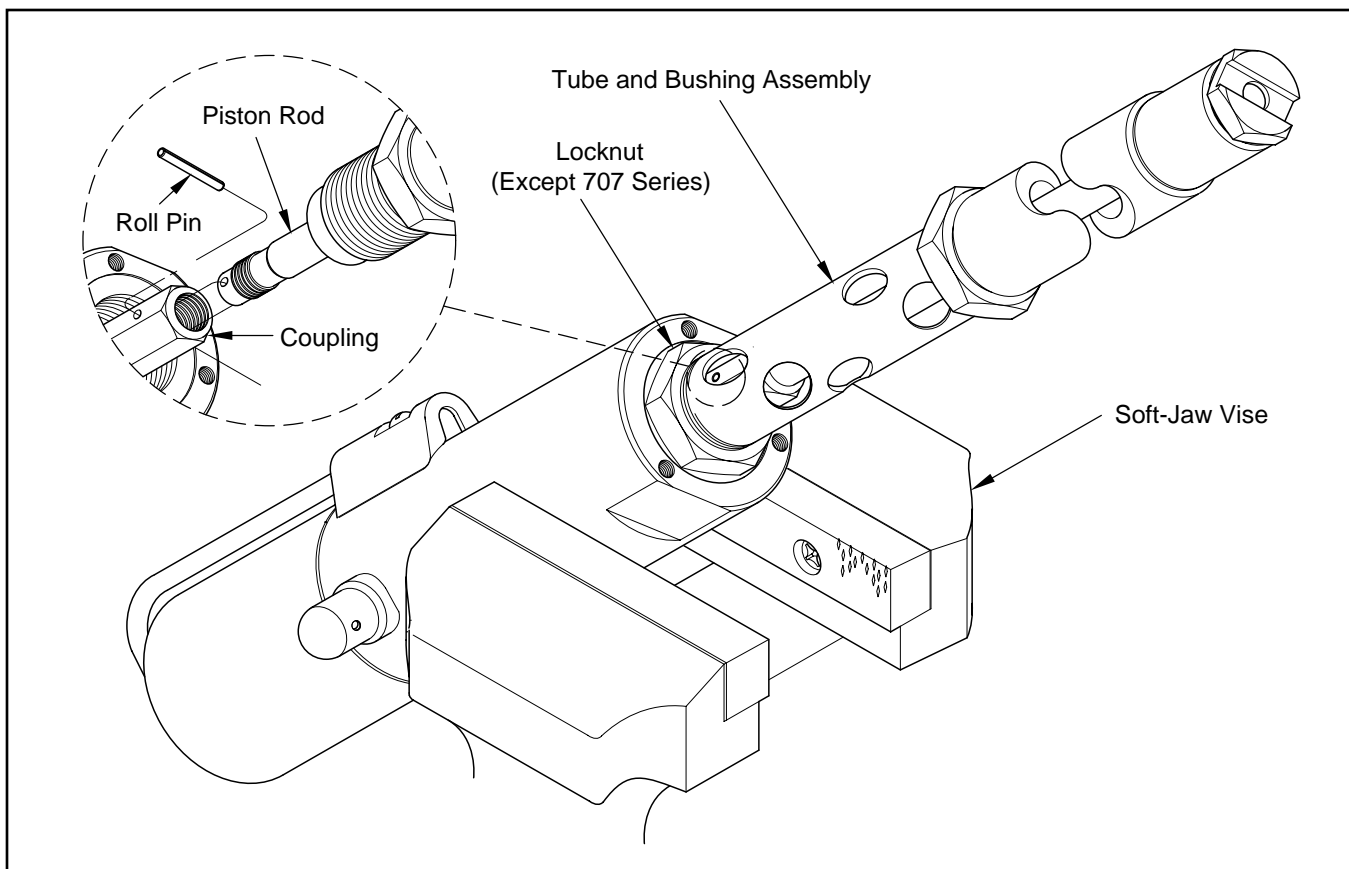

Figure 3 Separation of Pump Tube Assembly from Air Motor
1. Place the pump assembly in a soft-jaw vise. See **Figure 3**.
1. Place the air motor in a soft-jaw vise. See **Figure 3** and **Figure 2**.